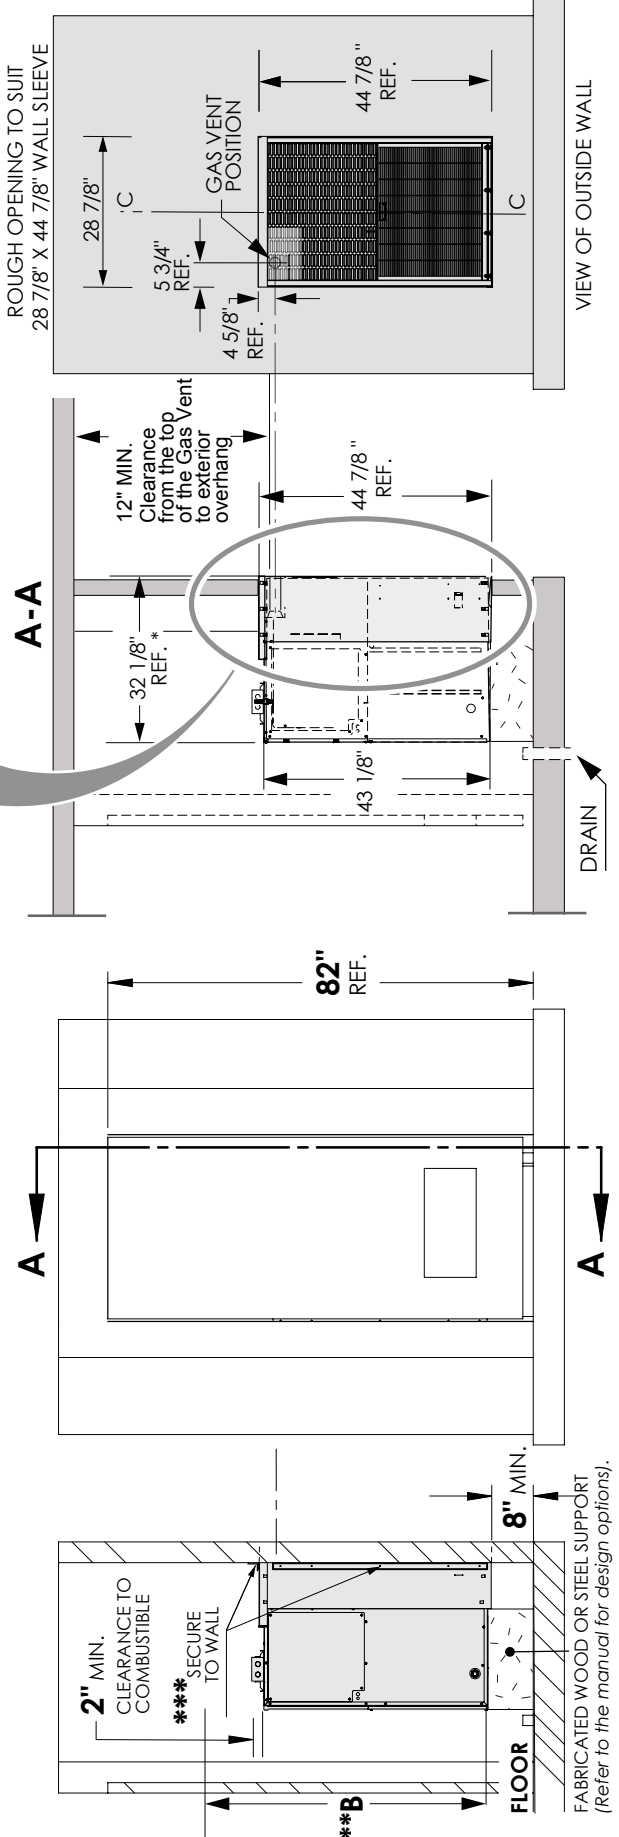

FIG. 4.2.2.B
- Do not install directly on carpeting, tile, or other combustible material other than wood flooring. The grille side of the unit must protrude minimum 1/2” but no more than 1” (maximum) from the face of the building and should not be obstructed by foreign objects. Refer to FIG. 4.2.2.B.
NOTE *** REFER TO FIGURE 4.2.2.A, PAGE 14.